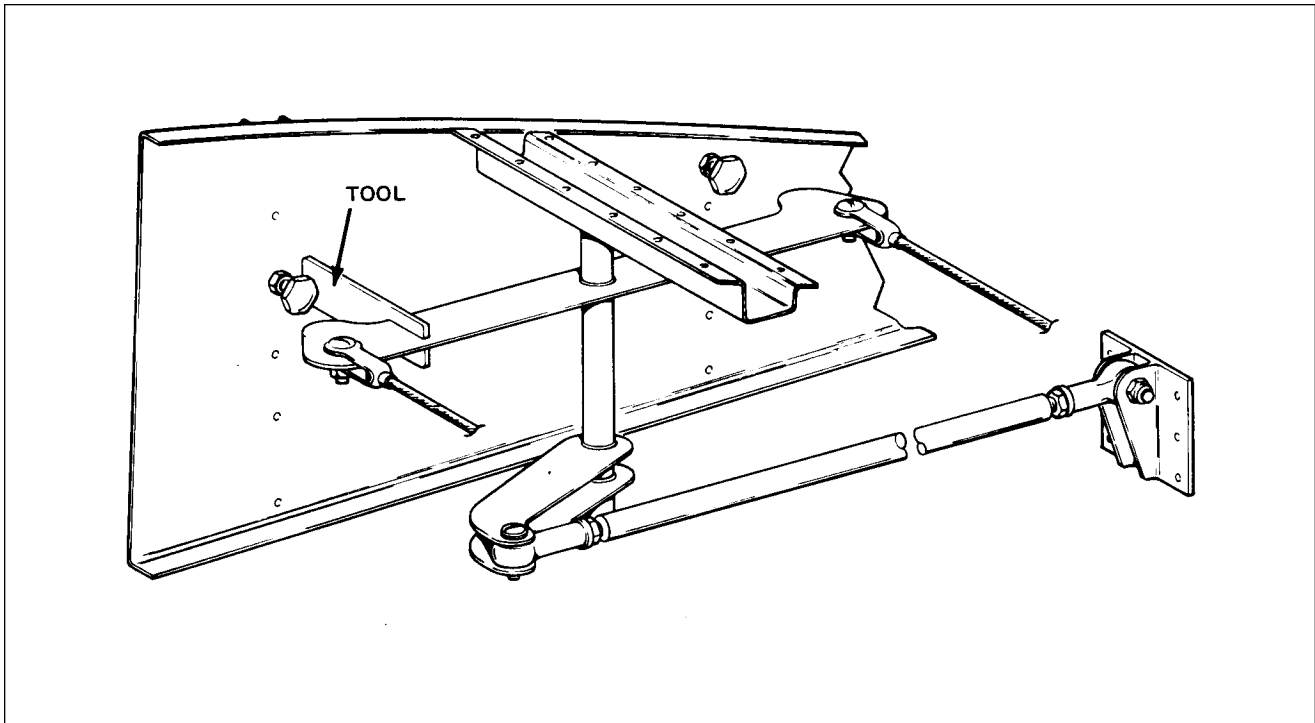

Figure 5-3. Bellcrank Rigging Tool
5-12. RIGGING AND ADJUSTMENT OF AILERON CONTROLS. (Refer to Figures 5-3 thru 5-4.)
3. Affix a bellcrank rigging tool, as shown in Figure 5-3, between the forward arm of each bellcrank and the adjacent outboard rib. (This tool may be fabricated from dimensions given in Figure 5-18.) The slotted end of the tool fits on the arm forward of and adjacent to the primary control cable end. The other end of the tool is positioned so that the side of the tool contacts the aft side of the bellcrank stop. The bellcrank must be moved to allow a snug fit of the tool between the bellcrank arm and rib. To do so, it may be necessary to loosen a primary control cable or the balance cable. Neutral position of the bellcranks may also be found by locating the position at which the forward and aft cable connection holes are an equal distance from the adjacent outboard wing rib.